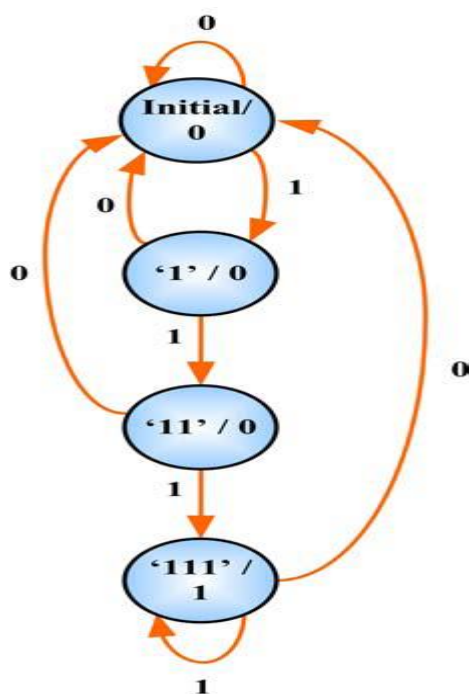

Figure 7: Moore Machine State Diagram
- The Moore machine state diagram for '111' sequence detector is shown in Figure 7.